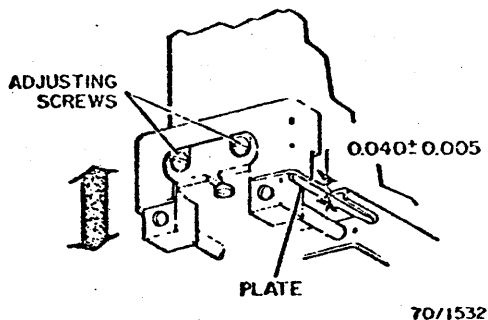

Fig. 3-177. Toner Dispenser Slide Gap
1. Adjust the toner dispenser slide gap in accordance with Fig. 3-177.